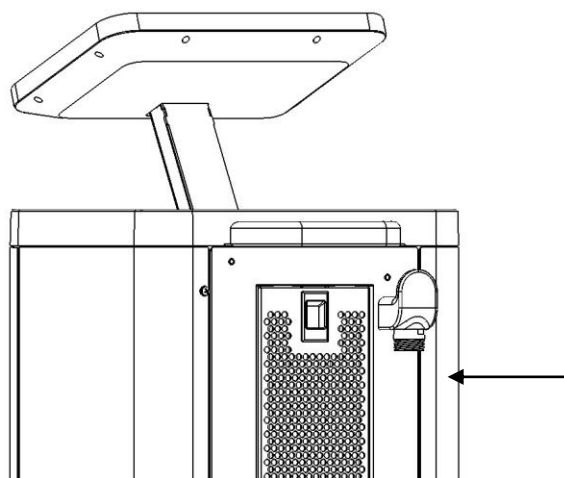

Figure 4.1 RF connector on rear panel (arrow)
- Connect Handpiece to top right inlet at rear panel (Fig 4.1).